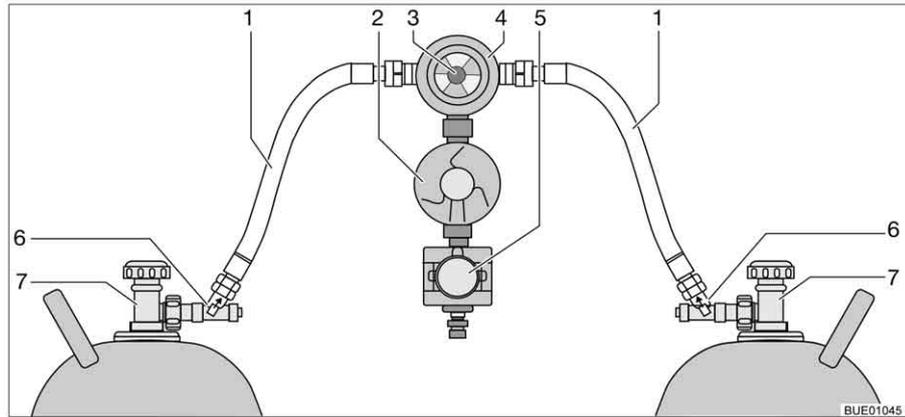

Fig. 150 Crash protection unit switching facility
The crash protection unit consists of two flow restrictors with manual release button (Fig. 150,6) a reversing valve (Fig. 150,4) with pressure regulator (Fig. 150,2), an electrovalve (Fig. 150,5) and the operating unit with tricoloured LED (Fig. 150,1).
Use the knob (Fig. 150,3) on the reversing valve to select which of the gas bottles is to be used as a primary bottle and which is to be used as a reserve bottle.
Only the electrical functions can be switched at the operating unit (Fig. 151). The regulator taps on the gas bottles (Fig. 150,7) and the release buttons (Fig. 150,6) must be opened manually.
- Open the regulator taps of the gas bottles (Fig. 150,7).
- Press the release buttons (Fig. 150,6) successively for 10 seconds.
- Use the knob (Fig. 150,3) on the reversing valve (Fig. 150,4) to select the gas bottle which is to be the primary source of gas (primary bottle). Always turn the knob as far as it will go.
- Close the regulator taps of the gas bottles (Fig. 150,7).